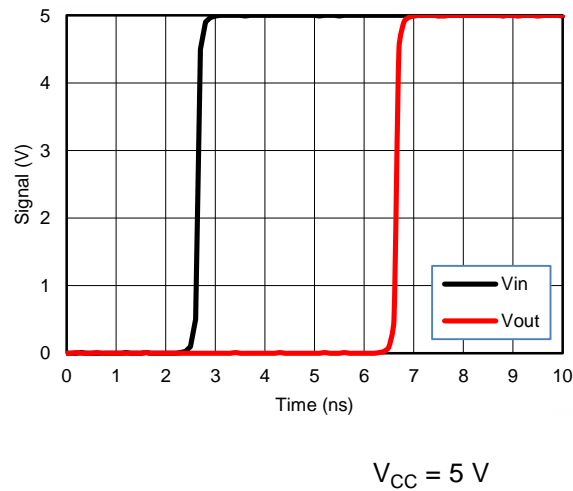

Figure 6. Simulated Input-to-Output Voltage Response Showing Propagation Delay
- Figure 6 illustrates the effects of frequency on output current.